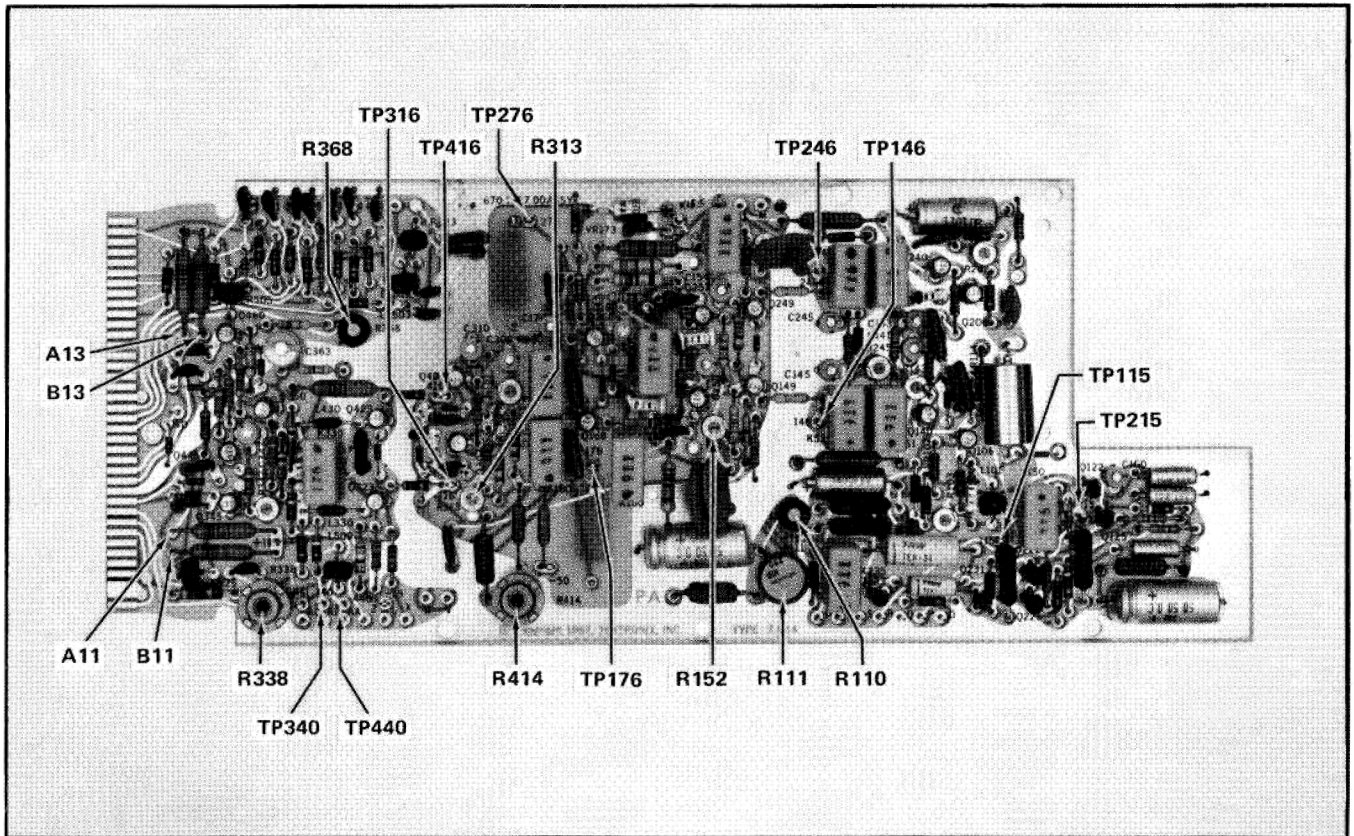

Fig. 5-1. Location of adjustment and test points for DC Balance checks.
Refer to Fig. 5-1 for location of test points.
- (1) Reset the voltmeter to the 12 volt scale.
- (2) Connect the voltmeter between A11 and B11 (the rearward end of R345 and R445. See Fig. 5-1).
- (3) ADJUST—R338 for a null (zero) reading on the voltmeter. Shift to the lowest scale for the final adjustment.